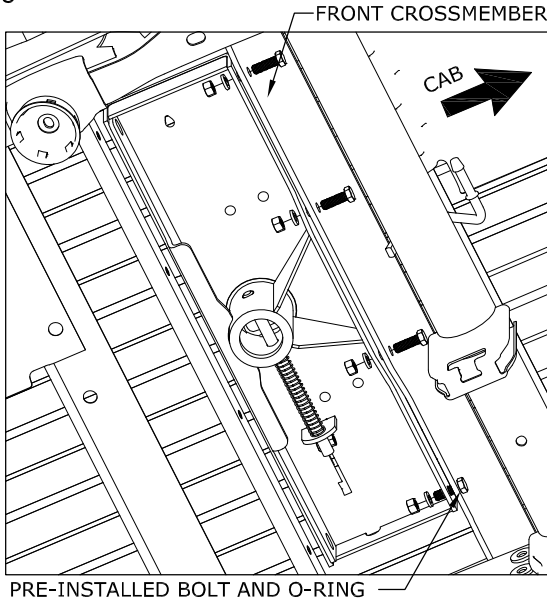

FIGURE B10: View under the center section looking from in front of the axle on the passenger side.
5. **Attach the front cross member to the center.** Slide the front cross member back against the center section so that the bolt installed previously in the front cross member goes into the center section hole directly across from it. Line up the rest of the holes and attach the two members with $\frac{1}{2}$ X $1\frac{1}{2}$ " long bolts, lock washers, and nuts as shown in figure B10 Hand tighten nuts.